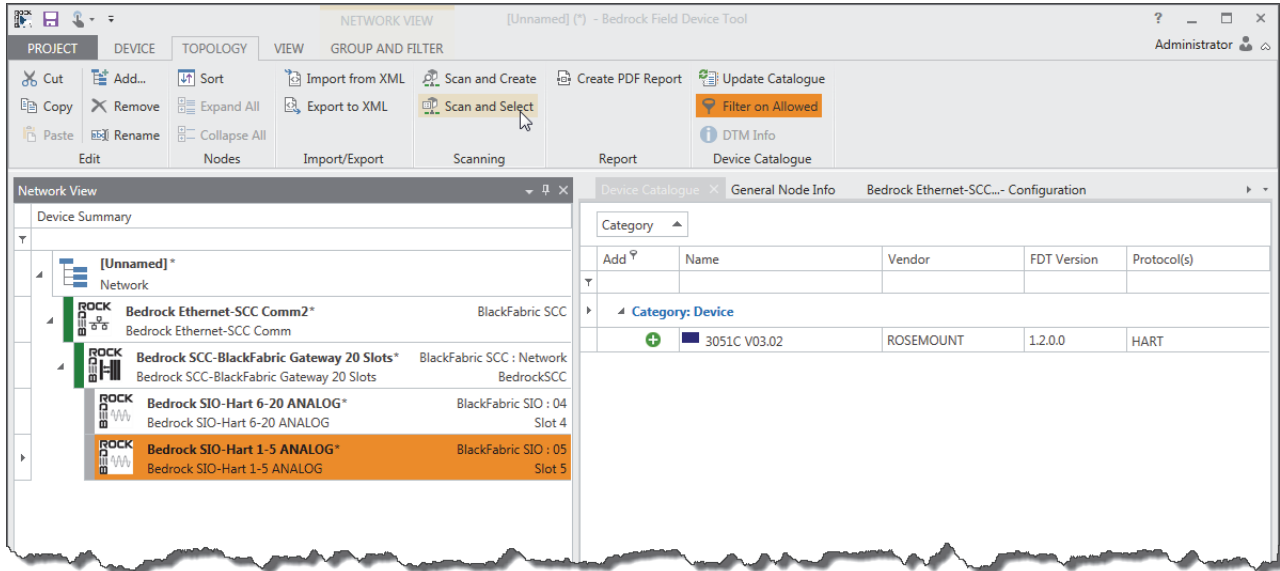

Figure 11-12 Device DTM in Device Catalogue
13. Once gateway DTMs for SIO Hart have been added to your project, the Network View pane will be updated as shown in Figure 11-12. Select a DTM for SIO Hart to see a list of device DTMs for HART devices in the Device Catalogue.
- To automatically add a device DTM for a HART device, click Scan and Select on the Ribbon as shown in Figure 11-12.